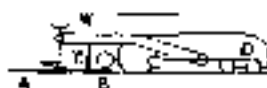

FIGURE B-5
The basic principle of the Finisher is: The screed when pulled into the material will automatically ride up or down to seek the level where the bottom of the screed (AD) Figure B-5, or the road surface becomes parallel to the direction of the pull (CD) and continues parallel, laying a definite thickness until the screed alignment is changed.
NOTE: The sketches shown here (Figs. B-5 through B-18) must necessarily be exaggerated. Actually the initial tilt of the screed is relatively so small it cannot be observed in the finished pavement.